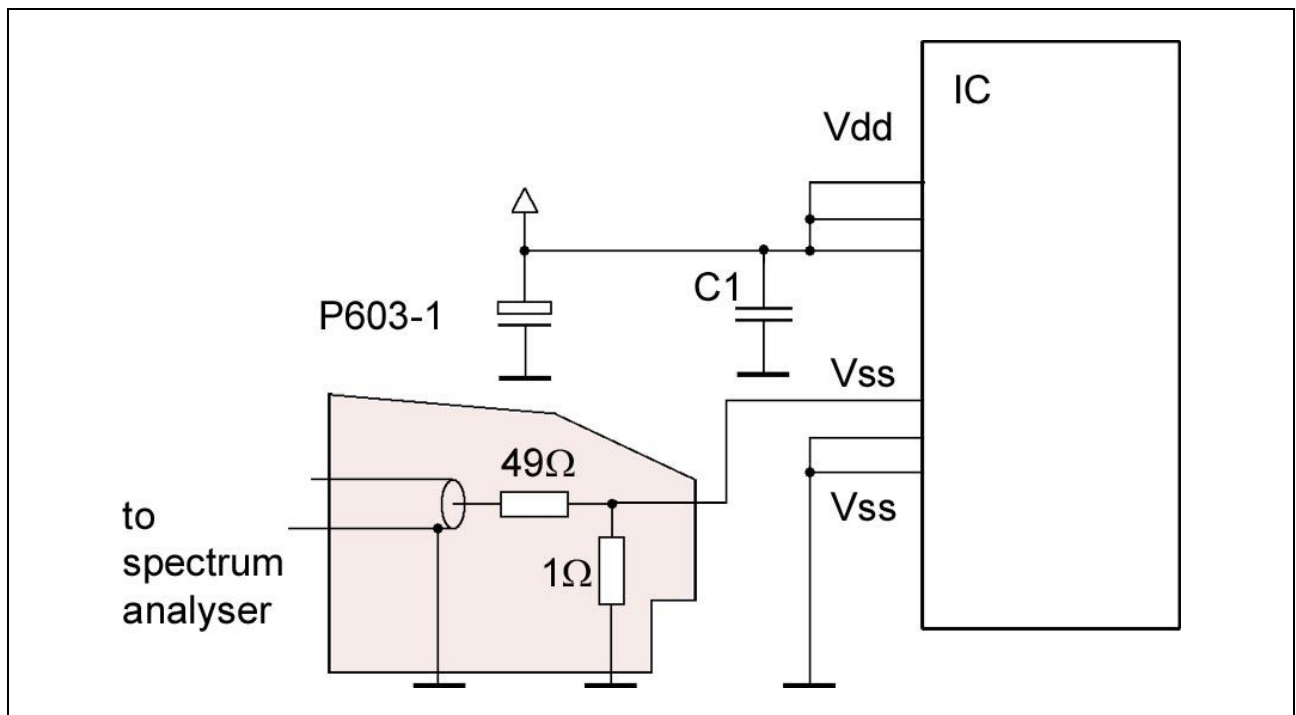

Figure 3 P603-1, current measurement on a single Vss pin.
2. Current measurement (**P603-1**) on a single Vss pin, **Figure 3**